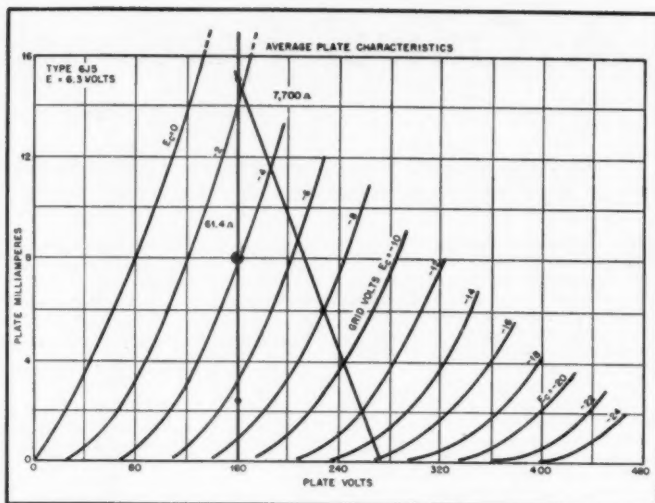

Fig. 3. Plate family for 6J5 tube to show effect of feedback on tube performance.
The feedback voltage developed across R_o will be the difference between the total output E_p of -50.0 volts and E_o from Eq. (18) equal to -27.5 volts or -22.5 volts. When β is increased to 0.50, the voltages E_o and E_c will be equal in amplitude, a condition necessary for phase-inverter service. Cathode-follower operation results when β is made equal to unity, in which case the entire plate load is R_o , since R_o is zero in this case. Notably in television work, the load impedances often used with cathode followers are much lower than plate-loaded applications. In these applications, the gain A is reduced considerably, thereby producing smaller feedback voltages across the load. As long as load impedances are fairly high, normal plate-voltage values can be used since the plate current will be limited by the 1R drop in the load. With loads in the neighborhood of 75 to 300 ohms, plate voltages must be reduced considerably; this is confirmed by reference to the 6J5 curve in Fig. 3. A low value of load will cause the load line to approach the vertical as the load impedance approaches zero. The operating point must be chosen so the tube will not be driven into either cutoff or saturation regions. The 6J5 is shown operating with 160 plate volts, which will cause a plate dissipation of 1.28 watts, one-half of its rated 2.5 watts. A bias of 4.0 volts places the operation about midway on the graph at this point; thus the 8-mA plotted current will necessitate a load resistor of 500 ohms to produce the proper bias. Assuming the tube is being used to feed a properly terminated 70-ohm transmission line, the tube as a generator will actually look into a
61.4-ohm load, which is the parallel combination of 500 and 70 ohms. The amplifier gain A with this load from Eq. (1) will be
From Fig. 3, a grid drive of approximately 2.5 volts is indicated since anything greater will drive the tube into nonlinear operation. A 2.5-volt drive will swing the plate current between 2.5 and 15 milliamperes. The output E_c will be